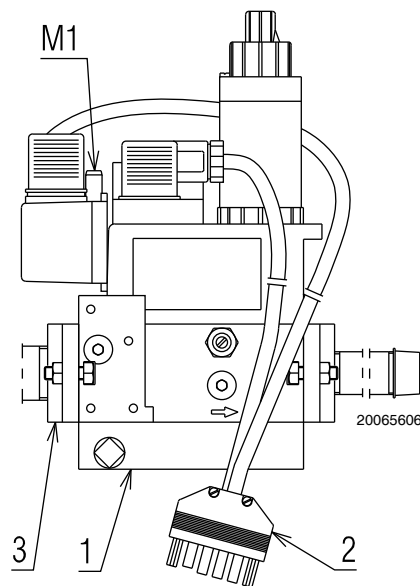

Fig. 17
- unscrew the screws of the 6 pin plug 2)(Fig. 17) of the gas train;